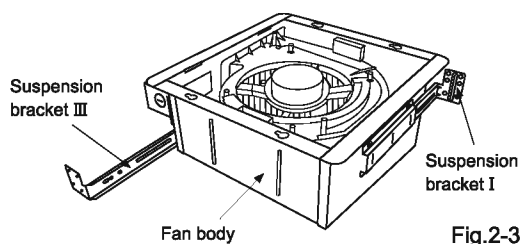

Fig.2-3
19.2 inches vertical joists	Refer to Fig. 2-3